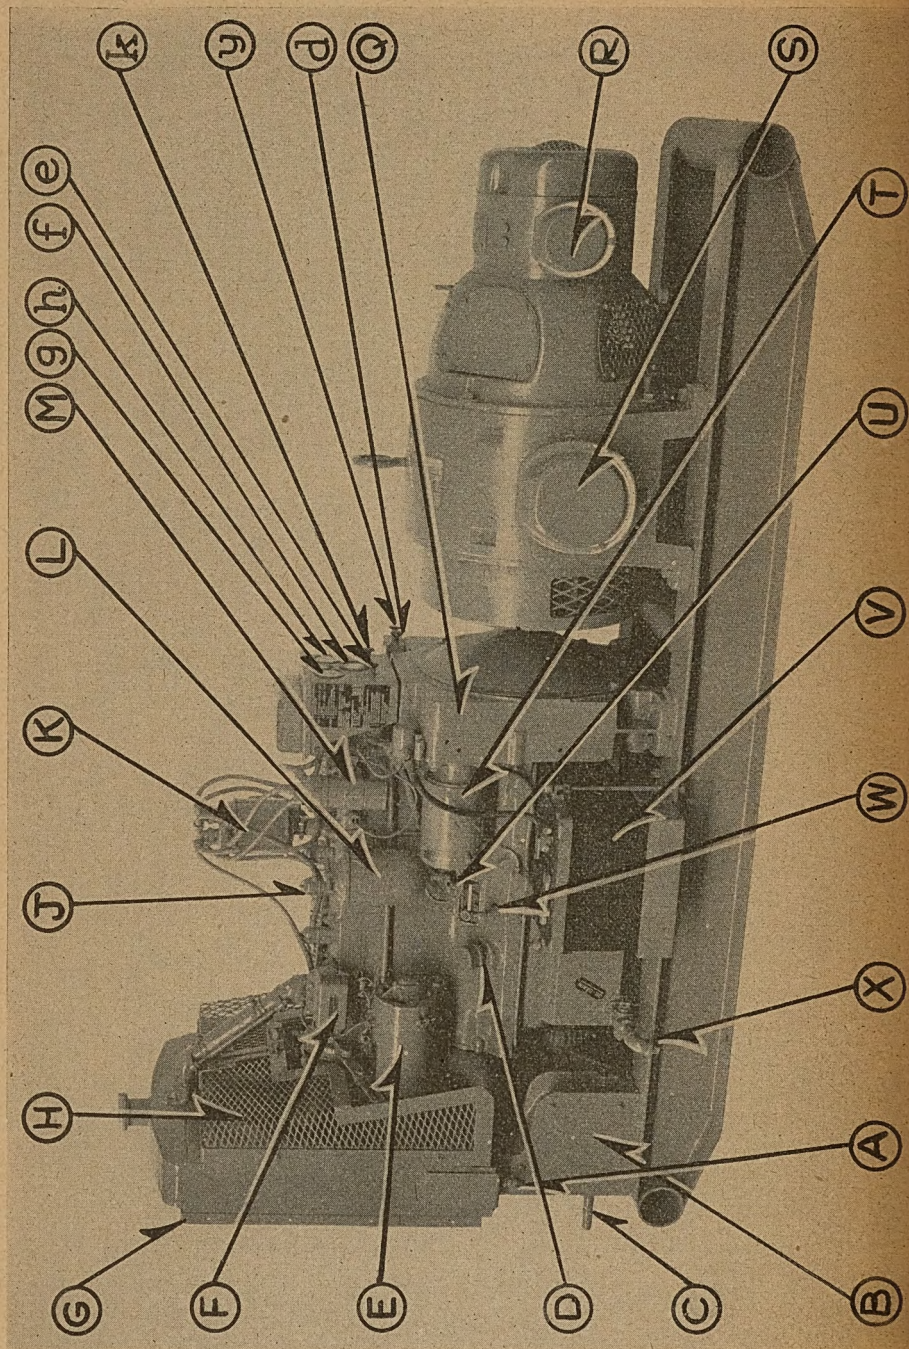

Figure 2. Power Unit PE-79-F, right side.
### LEGEND FOR FIGURE 2.
(2) **OILING SYSTEM.** Main, connecting rod, and camshaft bearings are lubricated by oil pressure supplied by a gear-type oil pump. Other internal parts are spray-lubricated. An oil filter (fig. 2 [L]) is used to remove foreign matter from the oil as it circulates through the engine pressure system. A bayonet-type oil level gauge is mounted on the right side of the engine (fig. 2 [W]).
(4) **IGNITION SYSTEM.** A battery ignition system is used. A distributor is mounted at the top of the engine, and is gear-driven from the engine camshaft. This unit includes the breaker mechanism, capacitor (condenser), and rotor assembly, all three parts contained within the distributor casing. A high-tension coil (fig. 2 [M]) is used to generate the high voltage. The distributor (fig. 2 [K]), spark plugs (fig. 2 [J]), and ignition wiring are shielded to minimize radio interference.
(5) **SIX-VOLT BATTERY SYSTEM.** The belt-driven charging generator (fig. 2 [E]) supplies current to recharge the 6-volt battery (fig. 2 [V]) located on the right side of the engine. The storage battery also supplies power for electric starting and for ignition during the starting period. A combination voltage regulator (fig. 2 [F]) and reverse-current relay controls the charging rate and the opening and closing of the charging circuit. The starting motor (fig. 2 [T]) is equipped with a Bendix drive gear which automatically engages the flywheel ring gear when the starting button (fig. 2 [K]) is pressed.